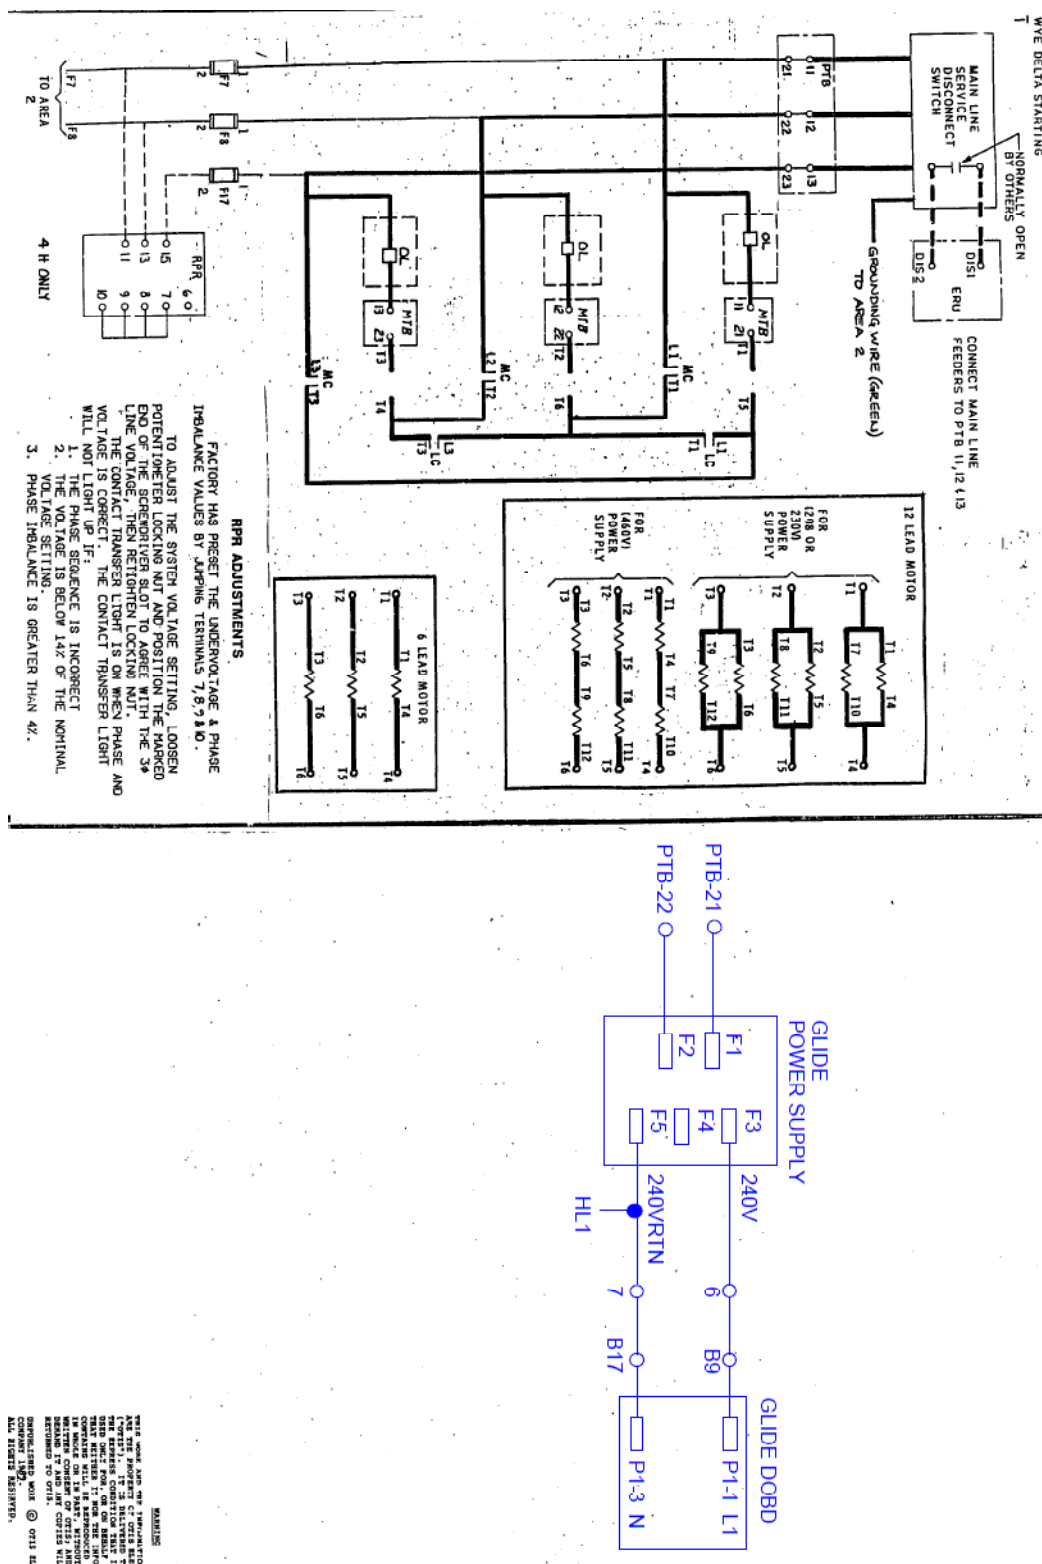

Figure 13: Area 1 of W/D 8-1S7900AS – Glide Power Supply Added
- **Area 1:** Addition of Glide power supply. Figure 13
- **Area 1:** Addition of Glide power supply. Figure 13 (Same wiring as Area 1 of W/D 8-1S7900AS)